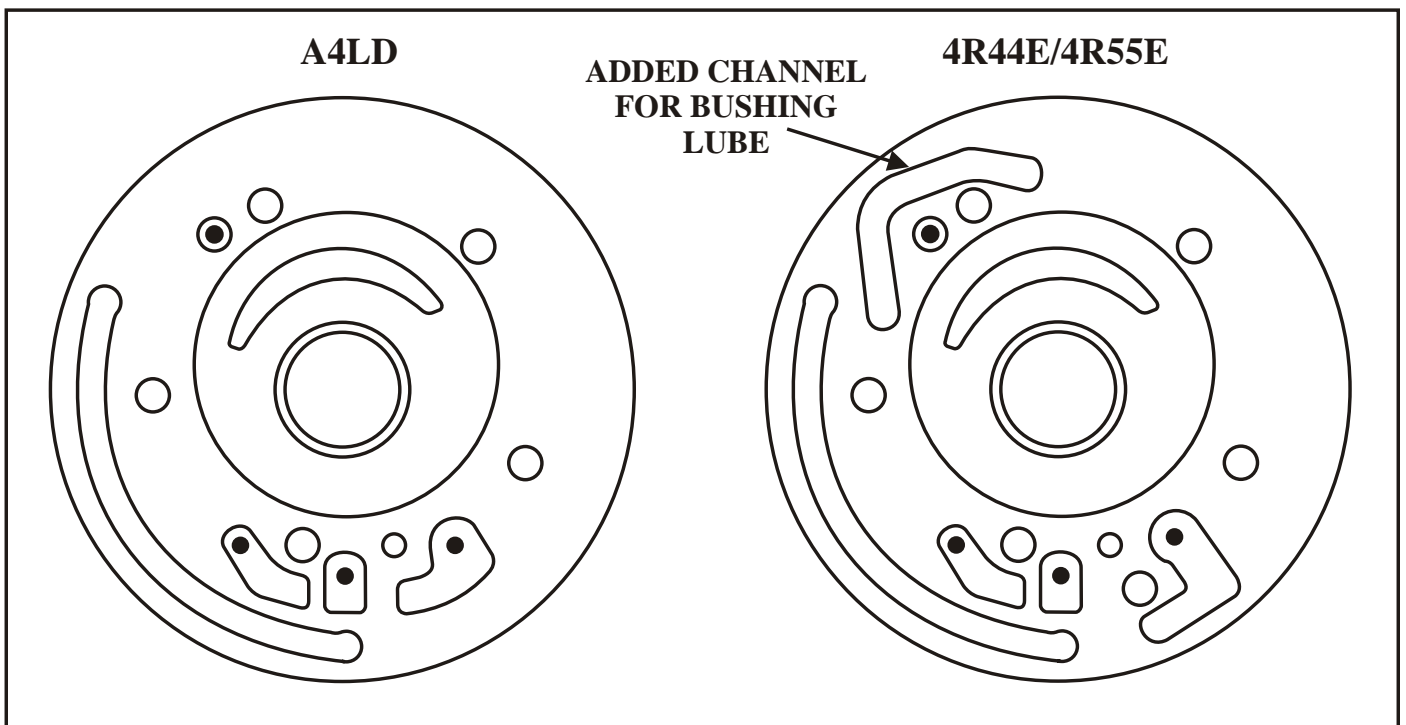

Figure 2
- (2) PUMP BODY - Added channel in the 4R44E/4R55E pump body for improved converter hub bushing lubrication, and a new bolt hole to accommodate an added bolt for increased clamping. Refer to Figure 2.